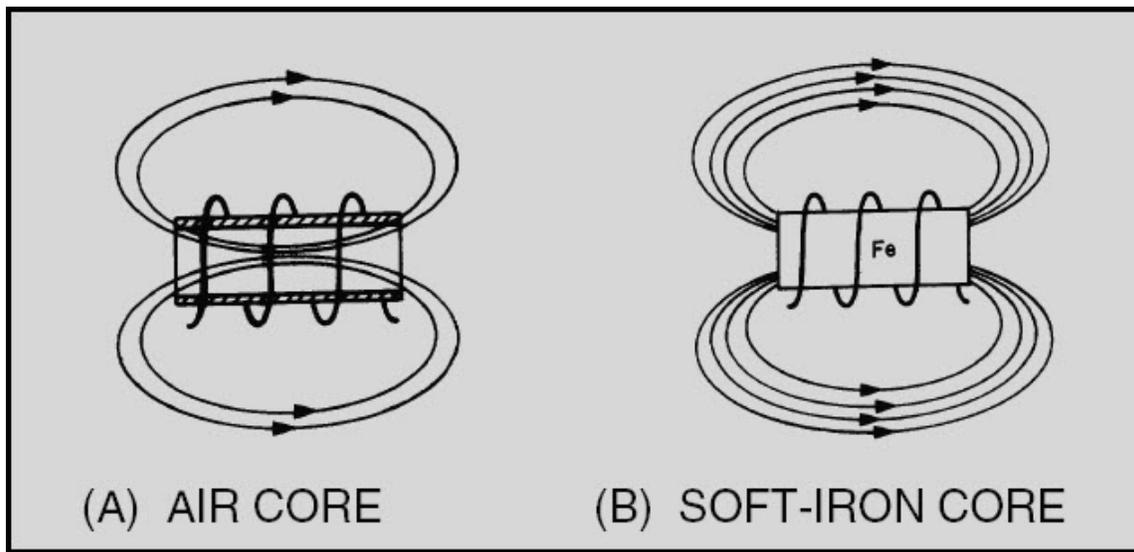

Figure 2-8 Inductance factor (core material)
The fourth physical factor is the type of core material used with the coil. Figure 2-8 shows two coils: Coil (A) with an air core, and coil (B) with a soft-iron core. The magnetic core of coil (B) is a better path for magnetic lines of force than is the nonmagnetic core of coil (A). The soft-iron magnetic core's high permeability has less reluctance to the magnetic flux, resulting in more magnetic lines of force. This increase in the magnetic lines of force increases the number of lines of force cutting each loop of the coil, thus increasing the inductance of the coil. It should now be apparent that the inductance of a coil increases directly as the permeability of the core material increases.